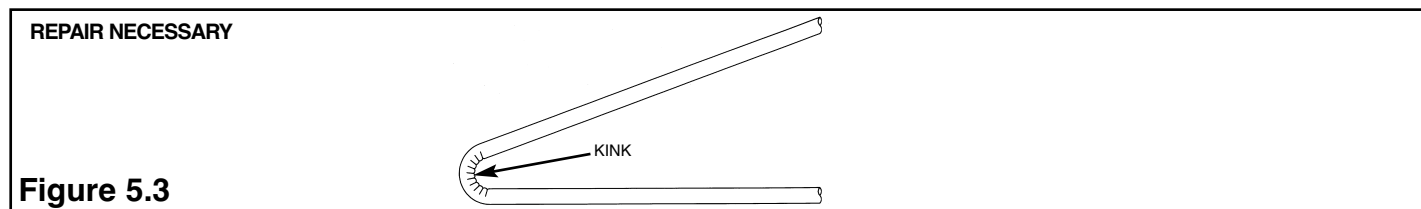

Figure 5.3
- The tubing has been bent beyond its minimum bend radius so that a crease or kink appears (Figure 5.3).